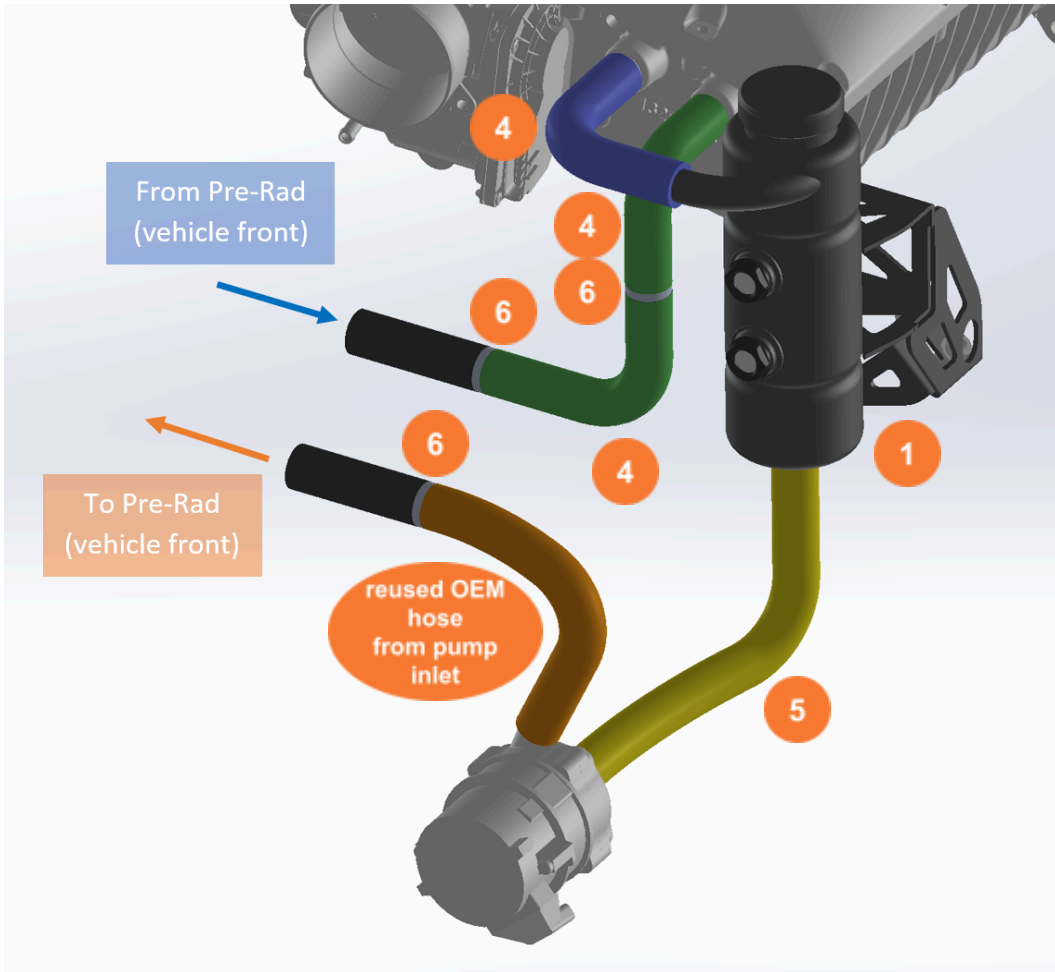
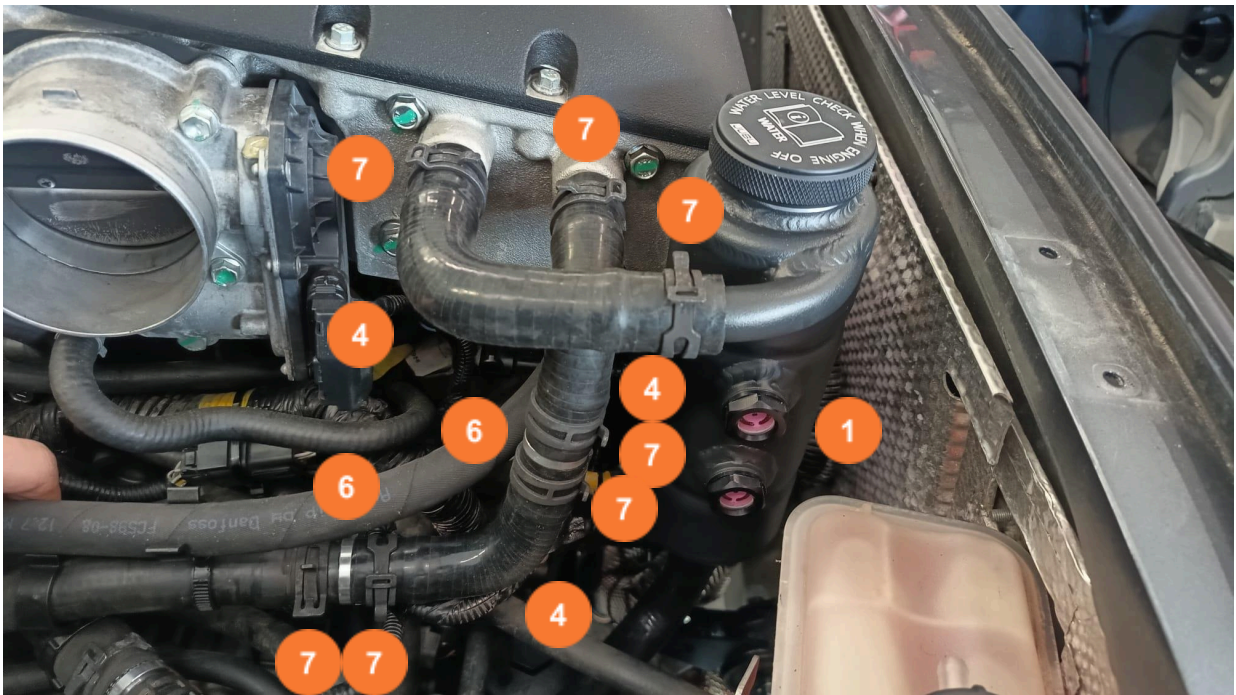
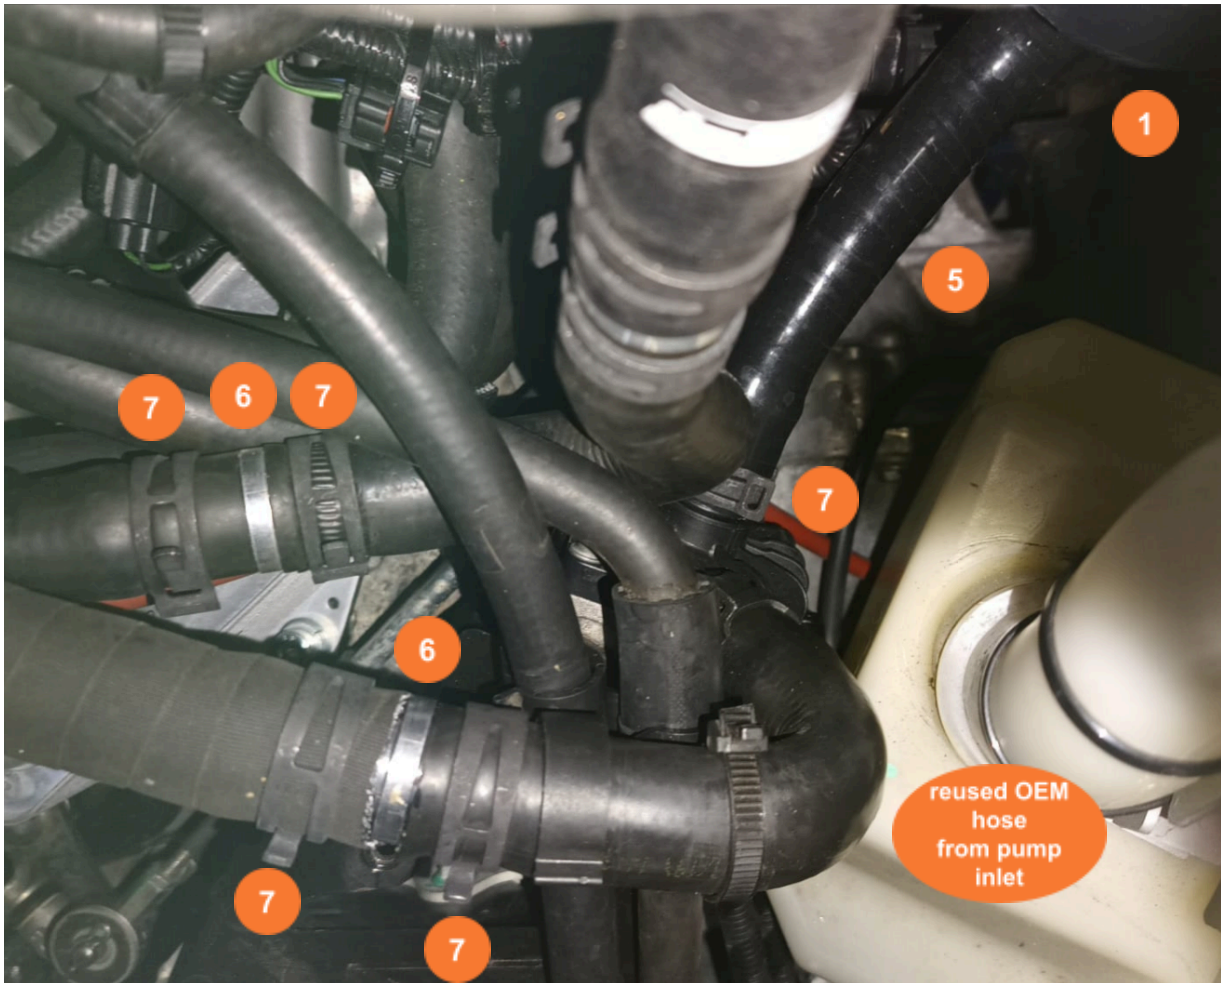

Fig. 4 Scheme for the tubing for the upgrade intercooler tank.
Fig. 5 Connecting the JUBU intercooler tank to the supercharger hose and the OEM hose
Fig. 6 Connecting the JUBU intercooler tank to the intercooler pump and the OEM hose
3. The JUBU upgrade intercooler tank (1) is connected to the supercharger, the intercooler pump and the OEM hoses as shown in *Fig. 4*, *Fig. 5* and *Fig. 6*. Use the 3 pcs. hose elbows  $\text{Ø}19\ 90^\circ$  (4), 1 pcs hose elbow  $\text{Ø}19\ 90^\circ$  extra long (5), 3 pcs  $\text{Ø}19$  CNC connector (6) and 12 pcs spring band clamps  $\text{Ø}27$  (7).